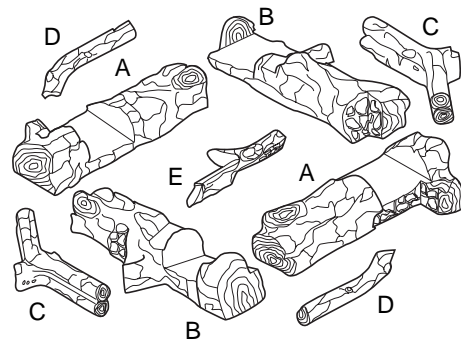

Figure 42 - Log Set (9 Pieces)
6. Figure 42 shows the log set. Logs "A" have the knot at the end of the log. Logs "B" have the knot at the middle of the log. Twigs "C" have the shape of a "Y". Twigs "D" have the shape of bent twigs. Twig "E" is a straight twig which is placed across the top of Logs "B".